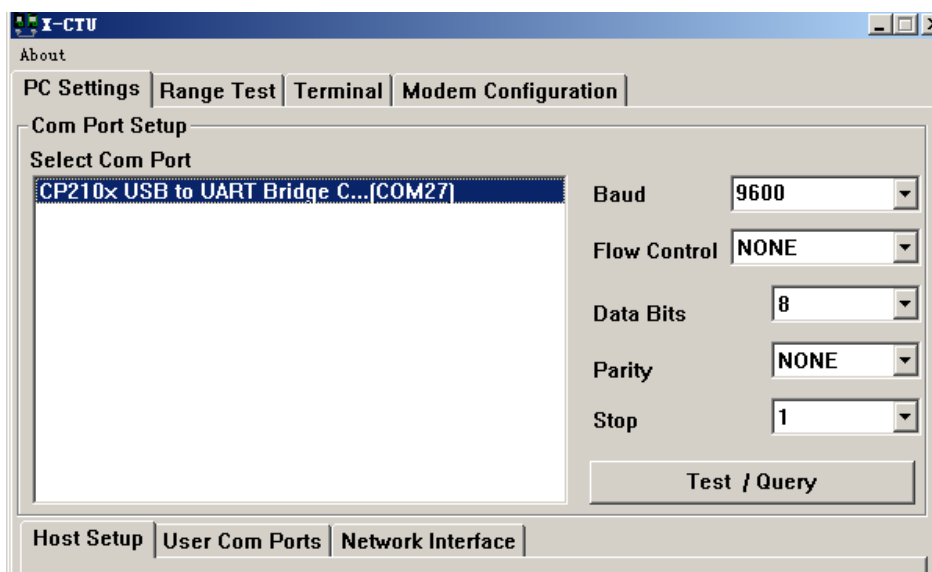

Figure 6: X-CTU setting
- 1) Double click the file software/X-CTU V5.2.8.6.exe on your PC to start installing X-CTU tool. After a successful installation, you can open the X-CTU tool as Figure 6 shows.